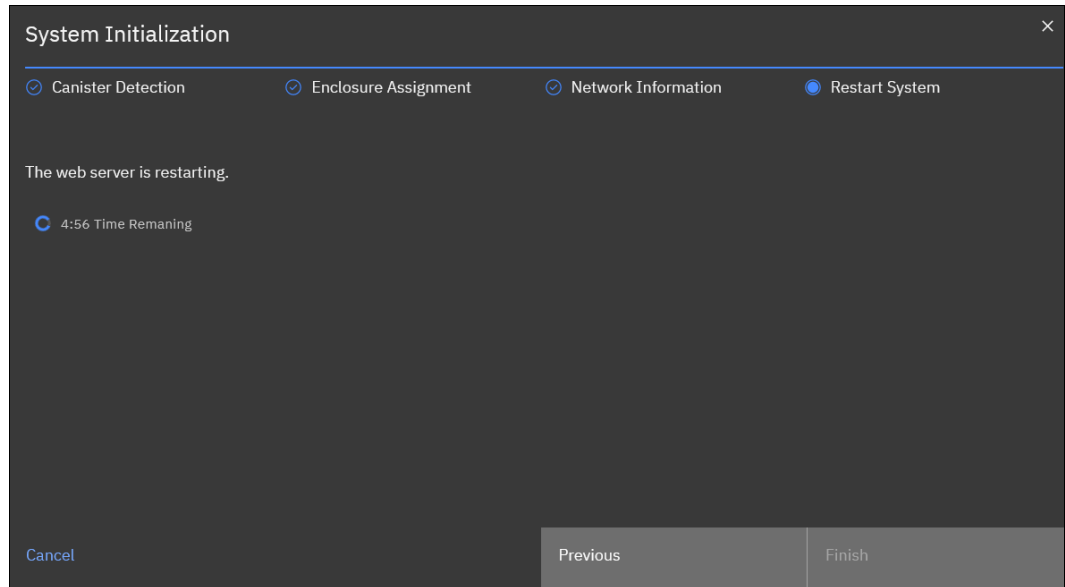

Figure 3-8 System Initialization: Web-server restart timer counting down from five minutes
7. A window with restart timer opens. When the timeout is reached, the window is updated to reflect success or failure. Failure occurs if the system is disconnected from the network, which prevents the browser for updating with the FlashSystem web server. The timeout counter window is shown in Figure 3-8.